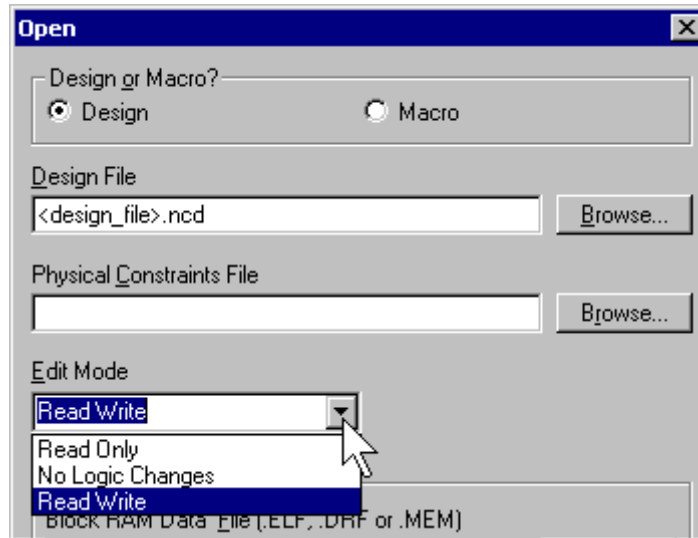

Figure 6: Enable User Editing in FPGA Editor
- Select **File** → **Open**. Select the *.ncd file for the completed design. Set the **Edit Mode** to "Read Write" mode as shown in Figure 6.